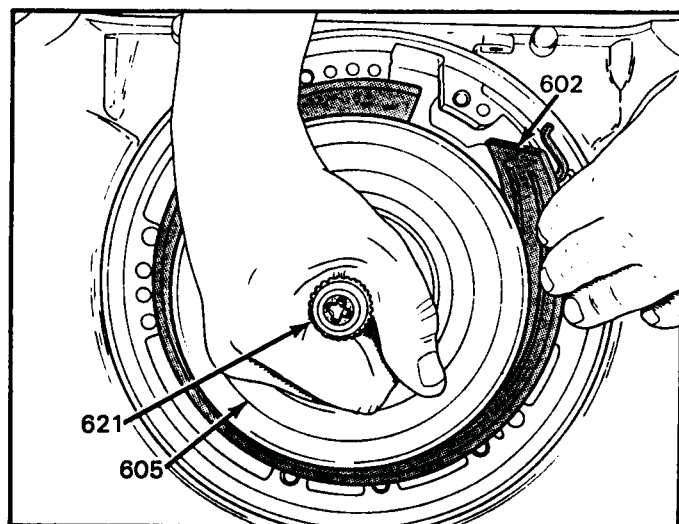

Figure 162
1. Install the 2-4 band assembly beginning as shown in Figure 162.